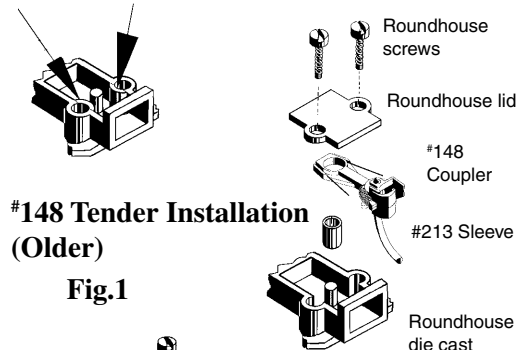

Fig.1
2. If any internal side protrusions are present in the coupler pocket, see Fig.1, remove them by cutting and/or filing until surface of sides are smooth and flat.